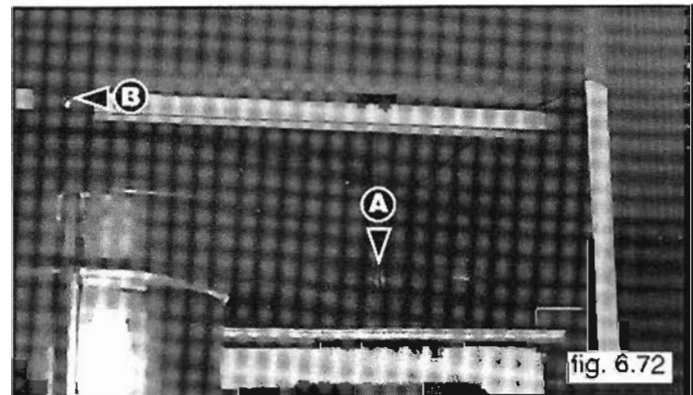

fig. 6.72
- 4 Remove nut "A" away from the expansion vessel ( see fig.6.72 );
- 5 Remove screw "B" using a POZI-DRIVE No.2 star tip screw-driver (see fig.6.72 );